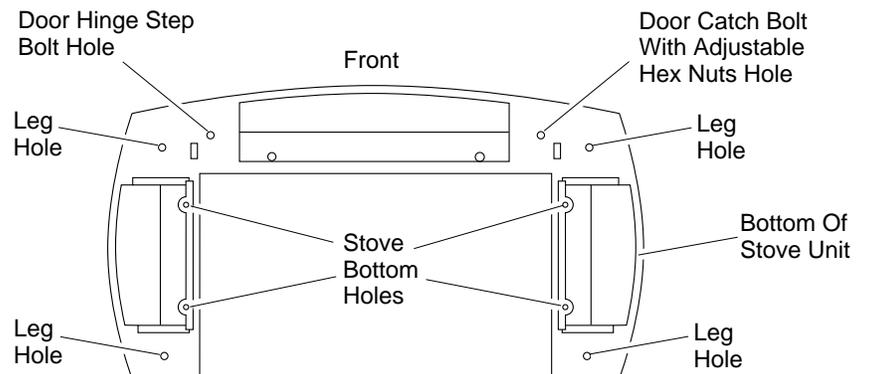
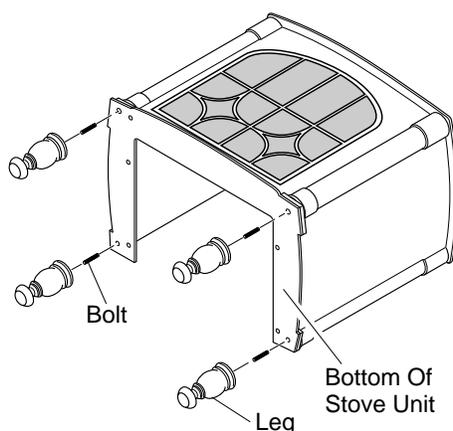

Figure 8 - Locating Threaded Holes for Stove Bottom, Legs, and Door Attachment (Appearance May Vary Depending on Model)
Figure 9 - Attaching Stove Legs
8. Fasten each leg to stove with four (4) bolts. Use a flat screw driver to tighten bolt to leg. Thread bolt in tapped holes on stove body (see Figure 8 and Figure 9, page 9).
9. Fasten stove bottom to stove with four (4) M6 x 1 - 25mm bolts. Use a flat washer and lock washer with each bolt. Tighten bolts into threaded holes on stove body (see Figure 8, page 8 and 10). Use an adjustable wrench or a 10mm socket.
11. Install door catch bolt (M8 x 1.25-55mm with two M8 hex nuts) into threaded hole on stove body (see Figure 8, page 8). Use an adjustable wrench or a 12mm socket. The catch bolt has two hex nuts attached to it (see Figure 12). The top nut is a bolt stop and the bottom nut is for door leveling adjustment.
15. Fasten back panel to stove with six (6) M6 x 1 - 20mm bolts and washers. Make sure product identification label is located on the outside in lower left-hand corner.